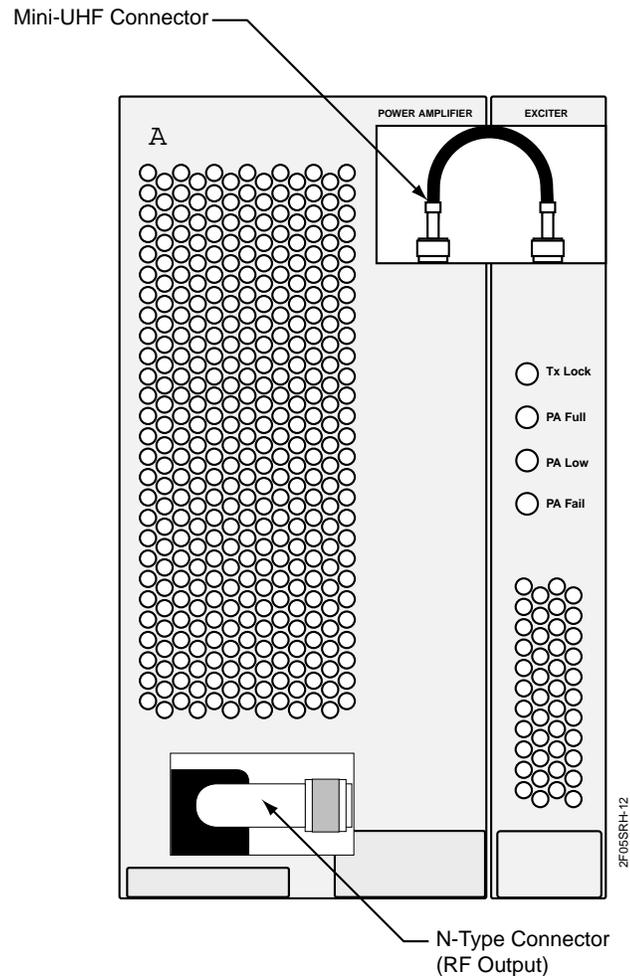

Figure 13-2: Location of N-type Connector and Mini-UHF Connector in a Standard Power Nucleus Paging Station
5. Disconnect the mini-UHF connector on RF cable that connects the Exciter to the PA (see Figure 13-2).
5. Disconnect the mini-UHF connector on RF cable that connects the PA to Exciter (see Figure 13-2).